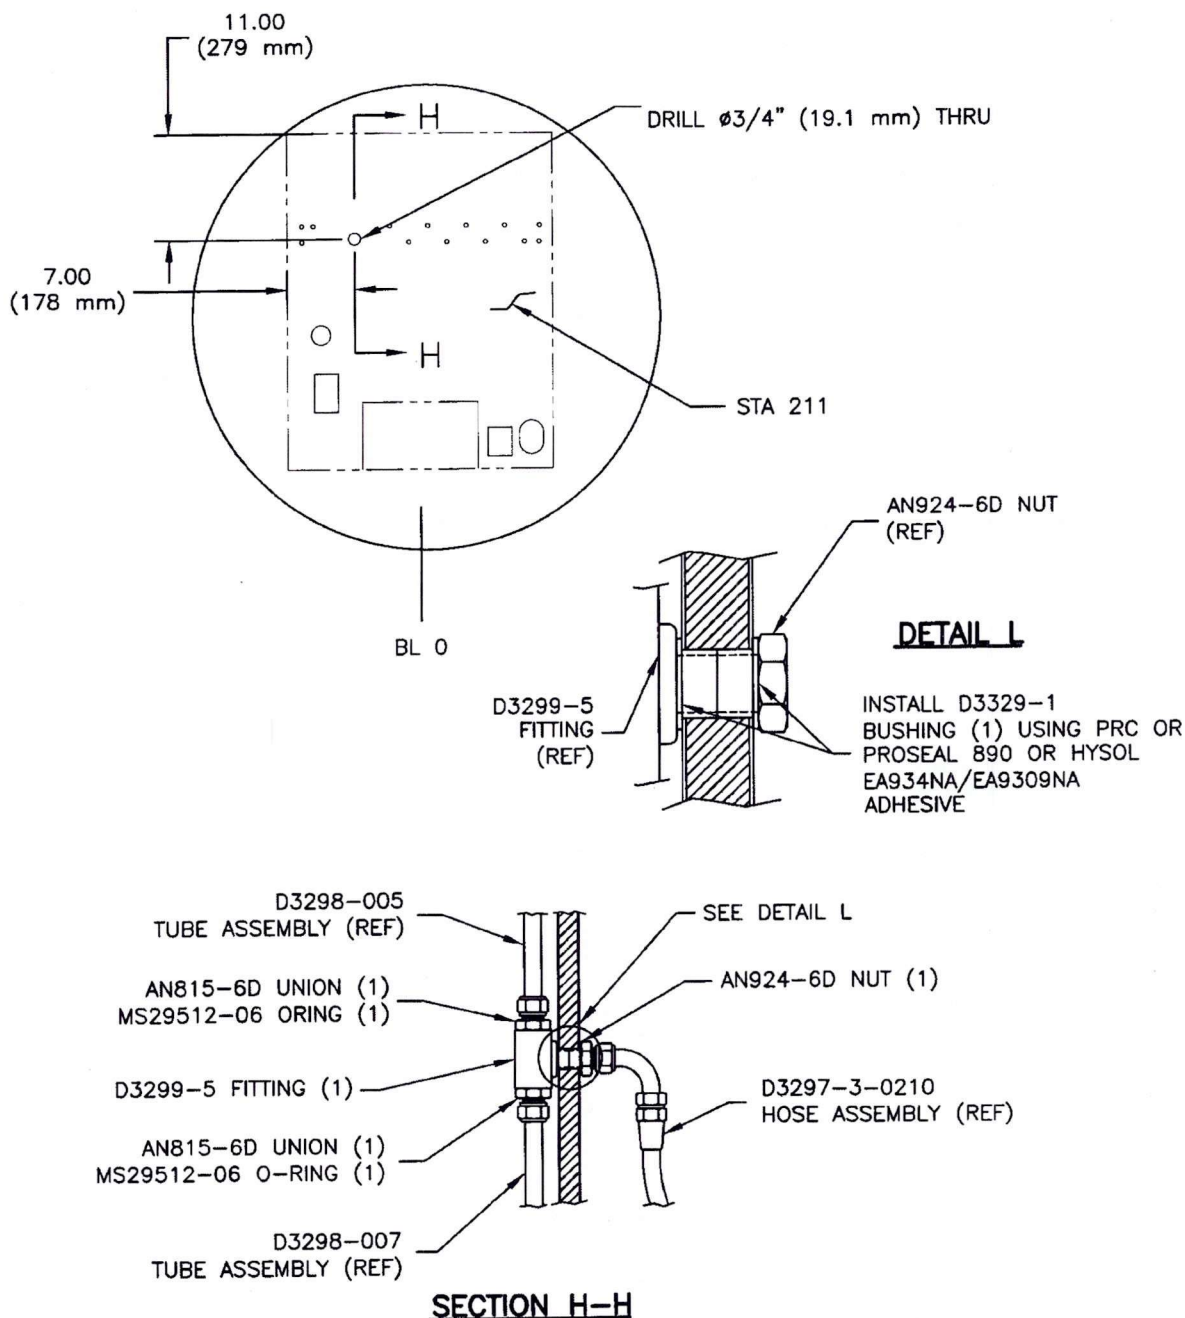

Figure 7 – View Looking FWD at STA 211
3.2.1 Remove existing drain line P/N 212-060-630-001, AN937-6D fitting, and cross over line P/N 212-060-629-001. Install AN938-6D Tee in place of the existing cross fitting. Install existing unions into AN938-6D Tee using 3 x new MS29512-06 O-Rings. Rework STA 211 wall as shown in Figure 7 by drilling a $\varnothing 0.75$ " (19.1 mm) hole through the honeycomb panel, and installing 2 x D3329-1 bushings with PRC or Proseal 890 or Hysol EA934NA/EA9309NA. Install D3299-5 fitting per Figure 7. Install D3298-005 and D3298-007 tube assemblies as shown in Figure 5. Ensure the chosen compartment is in compliance with section 3.1.9.